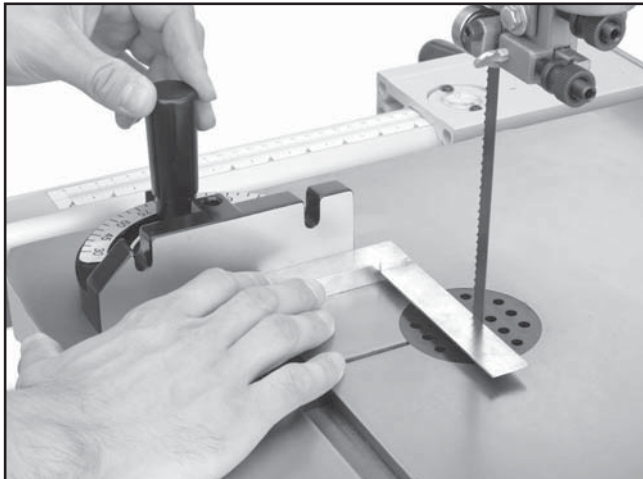

Figure 26. Squaring miter gauge to blade.
1. Use a machinist's square with one edge against the face of the miter gauge and the other against the blade face as shown in **Figure 26**.